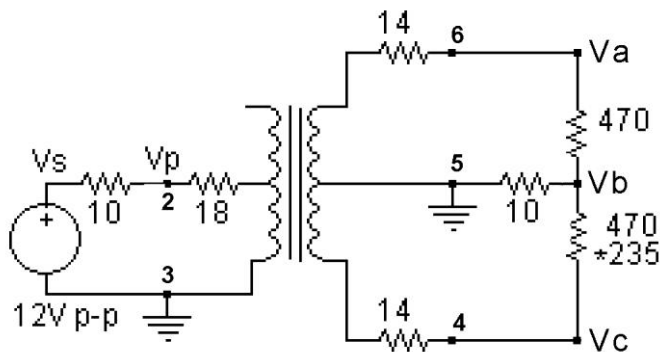

Figure 3-6
1. Connect the circuit in Figure 3-6. Set the generator to produce a 400Hz, 12V p-p sine wave with no offset. Connect oscilloscope channel 1 to measure V_p and channel 2 to measure V_s . Trigger on channel 1.
3. Simulate the circuit of Figure 3-6 and compare your results to the to your measurements.